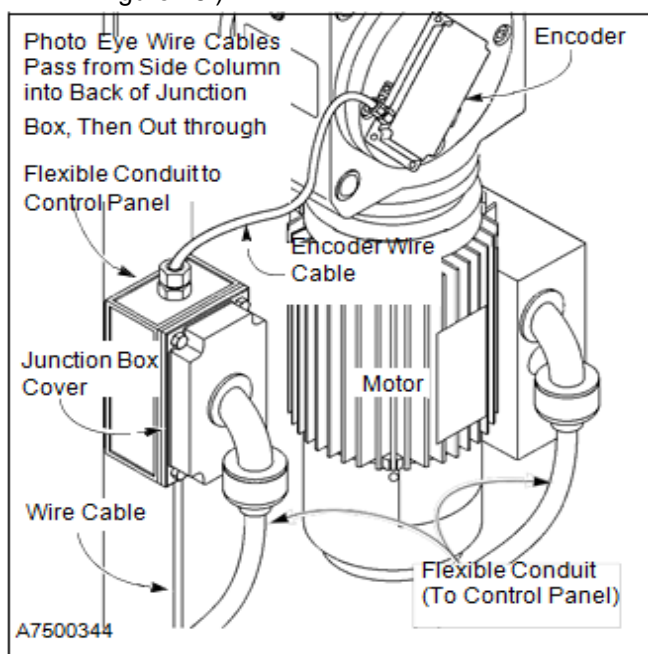

Figure 46
2. Route the motor wires to the control panel through the flexible conduit at the motor. (See Figure 46.)